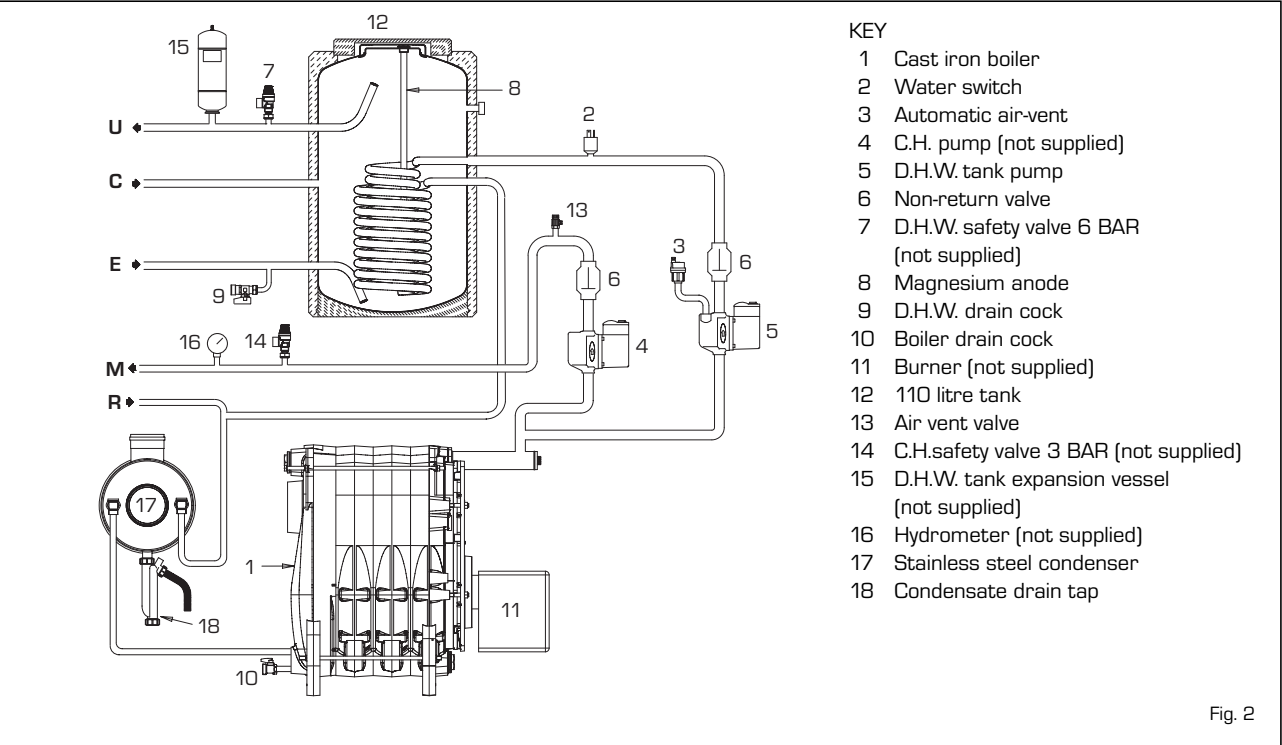

Fig. 2
2.3.1 Accessories [fig. 2]
During the preparation of hot water, the circulating pump installed on the boiler circuit remains in operation until the boiler thermostat probe detects the pre-selected value. Once the boiler thermostat has reached the set point, and the selector has been set to winter operation with the room thermostat on demand, the central heating circuit pump (not supplied) can be actuated. **All residual air in the boiler coils must be bled at the first start-up to ensure proper operation. To facilitate this operation, position the slot of the release screw on the check valve horizontally (6 fig. 2). Once the air has been bled, return the screw to its original position.** Hot water for sanitary use is prepared by the boiler in AISI 316L stainless steel, which is fitted with a special spiral-shaped stainless steel heat exchanger, a magnesium anode to protect the boiler and an inspection flange to simplify checking and cleaning.